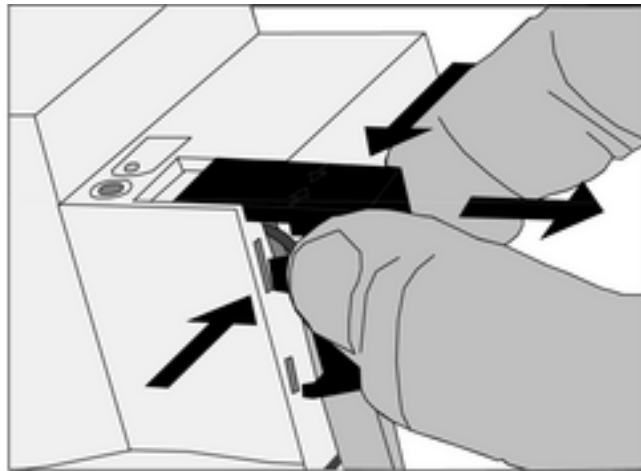

Figure 10: Removing the cover
- Press the cover to the side and pull it off (figure 10).